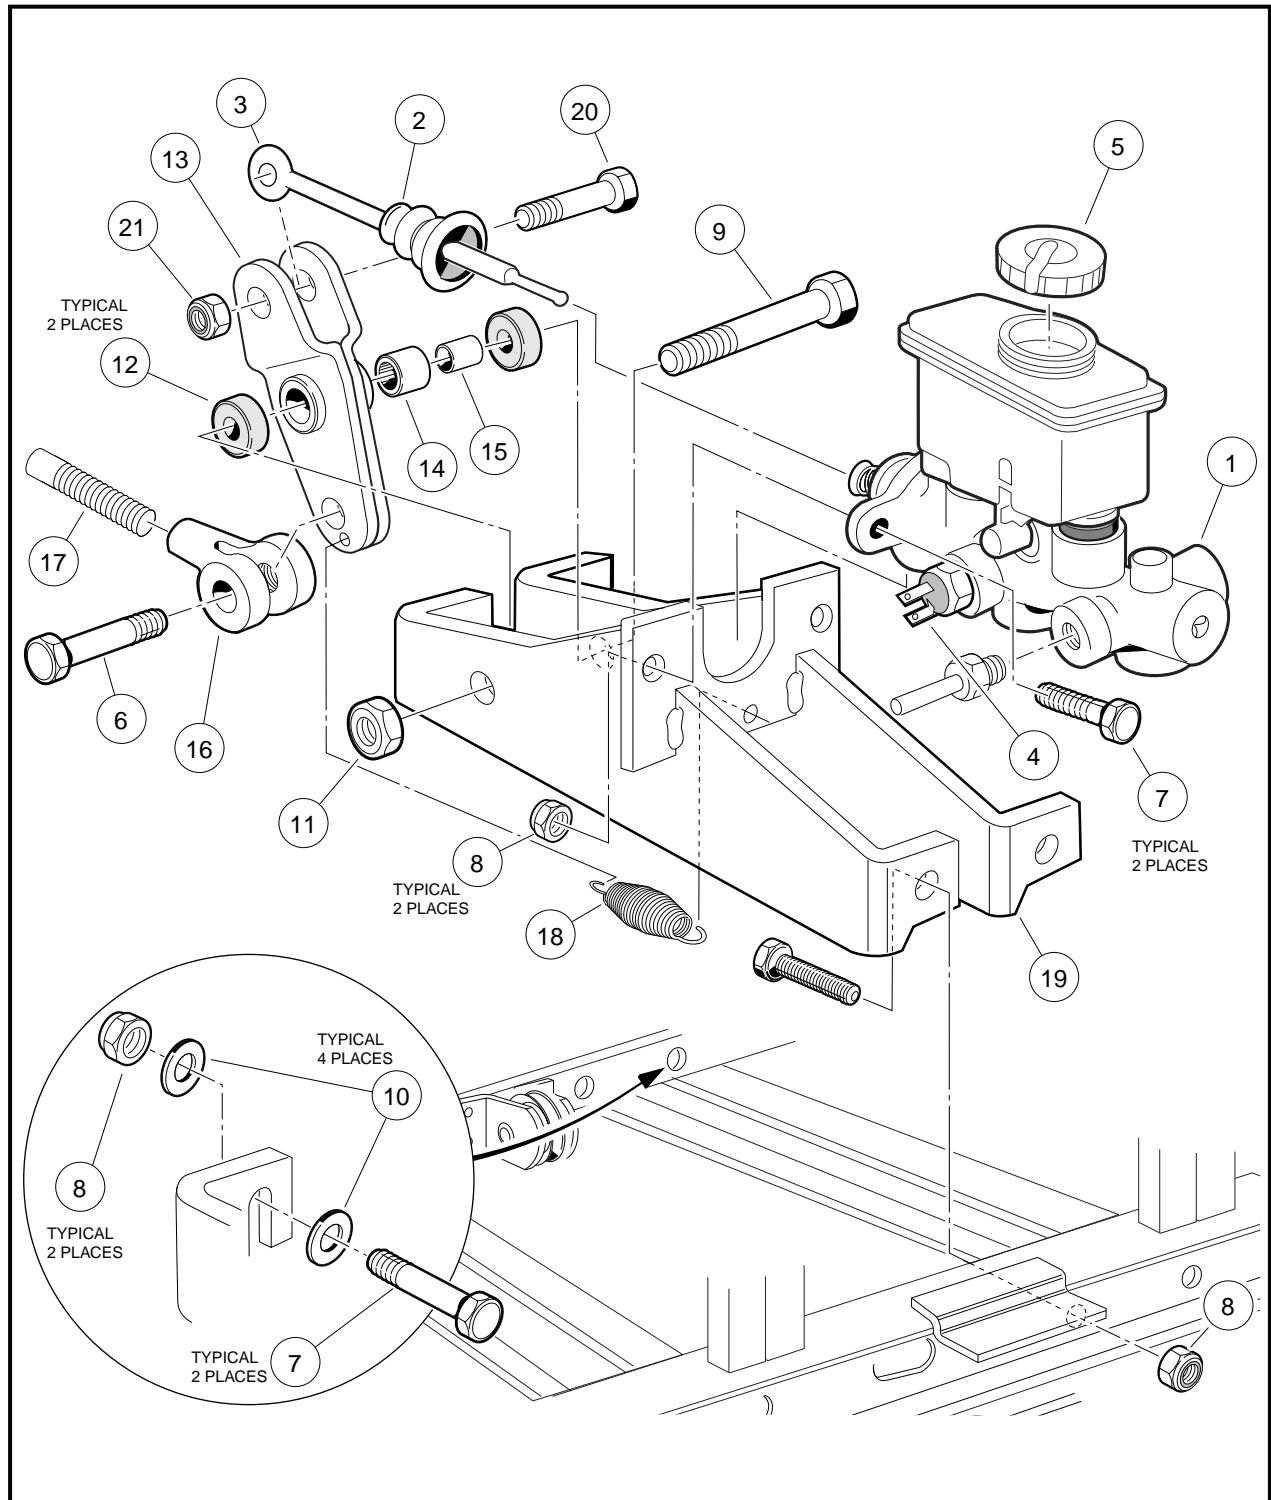

Figure 6-21 Master Cylinder
2. Remove the rod retaining bolt (6) and remove the clevis (16) from the bell crank assembly (13) (**Figure 6-21, Page 6-27**).
3. Remove the spring (18) from the bell crank (13) and master cylinder mounting bracket (19) (**Figure 6-21, Page 6-27**).
4. Remove the bolt (20) and lock nut (21) from the bell crank (13) (**Figure 6-21, Page 6-27**).
5. Remove the bolt (9) and nylon lock nut (11) from the master cylinder mounting bracket (19) (**Figure 6-21, Page 6-27**).
- Inspect the needle bearing (14) and the inner race (15) for damage or wear and replace if necessary (Figure 6-21, Page 6-27).
NOTE: The needle bearing (14) is press fitted to the bell crank. If replacement is necessary, the bearing must be pressed out and replaced (Figure 6-21, Page 6-27).
1. Install the bolt (9), spacers (12) and inner bearing race (15). Tighten nut (11) to 25 ft-lb (40 N·m) (**Figure 6-21, Page 6-27**).
2. Install push rod (3) into bell crank clevis.
3. Install the bolt (20) and locknut (21) and tighten to 14 ft-lb (19 N·m) (**Figure 6-21, Page 6-27**).
4. Install spring (18) as shown (**Figure 6-21, Page 6-27**).
3. Remove the two wires from the master cylinder pressure switch (4) (**Figure 6-21, Page 6-27**).
6. Remove the two bolts (7) and nylon lock nuts (8) that secure the master cylinder (1) to the master cylinder mounting bracket (19) (**Figure 6-21, Page 6-27**).
2. Insert push rod (3) and seat boot (2).
3. Install bolts (7) and nuts (8) and tighten to 14 ft-lb (19 N·m) (**Figure 6-21, Page 6-27**).